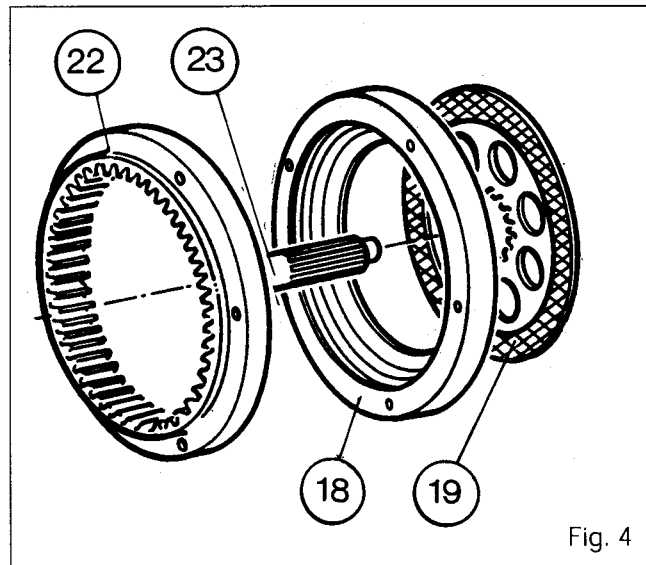

Fig. 4
18. Check that the disk (27) slides freely on the sun gear (25) (Fig.4).
19. Refit the locating dowel (28), the planetary shaft (25) and the brake disc (27).
21. Refit the brake plate (26) in the trumpet housing.
**NOTE: To retain the plate, apply three spots of "Amber Technical" or equivalent grease to the surface of the ring gear (10).**
**Note: Turn the shaft (2) to engage the planetary shaft (25) in the planetary gears (18)**
23. Clean the bolts (32) and coat them with Plastex, Hylomar or an equivalent gasket sealant.
24. Fit and tighten the bolts (29) to a torque of 170 - 210 Nm.